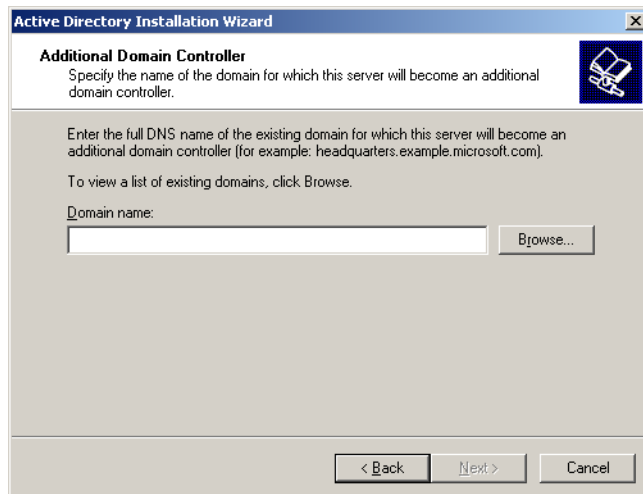
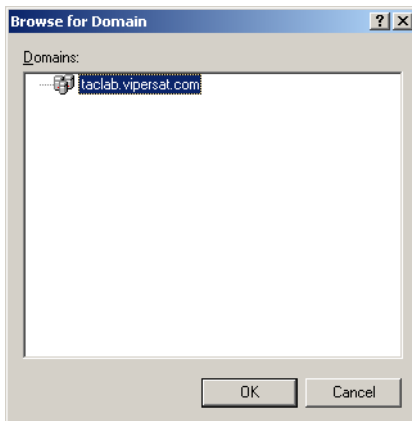

Figure D-31 Additional domain controller
Figure D-32 Browse for domain list
13. from the **Additional Domain Controller** dialog shown in figure D-31, click the **Browse** button on the **Domain Name** dialog box.
15. Clicking the **Browse** button shown in figure D-31 brings up the **Browse for Domain** list shown in figure D-32. From the list of domains shown in the **Browse for Domain** list, select the Primary VMS server's domain, then click the **OK** button to proceed.